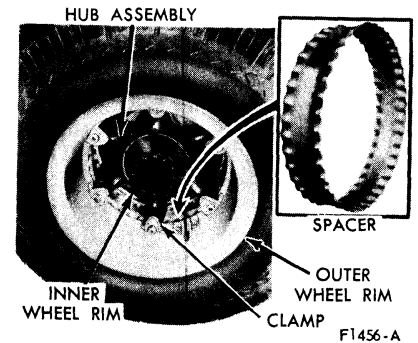

FIG. 5 Three-Piece Rim Installed on Cast Wheel
3. Place the outer rim and tire assembly on the wheel, and install the 6 clamps (Fig. 5). First, draw up the top clamp tightly so that the spacer will push the inner rim up on the tapered surface of the inner section of the wheel, and then tighten the bottom clamp. This